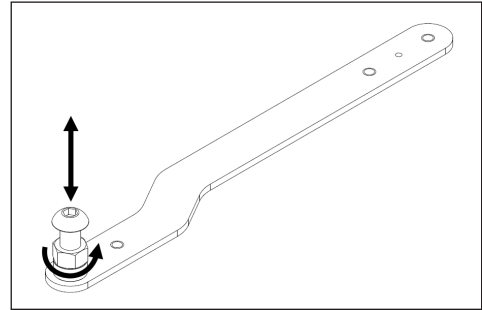

Figure 38: Adjustment Bolt and Jam Nut
2. Use the provided 5/16" T-handle hex wrench (part # TH-1088) to turn the adjustment bolt clockwise to increase the display face angle (tilt the face farther back), or counterclockwise to decrease the display face angle (tilt the display farther forward). Refer to **Figure 38**.